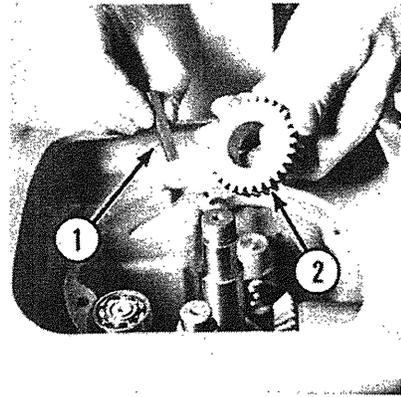

Fig. 3-13
- L. Remove key (1, Fig. 3-13) from the center shaft, then remove upper clutch gear with bushing (2, Fig. 3-13).